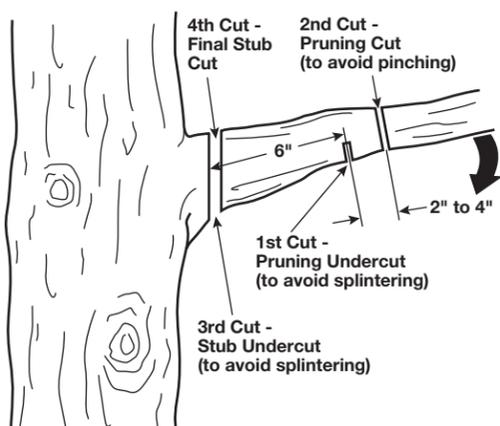

Fig. 15 Cutting Sequence for Pruning a Tree Limb
1. Use the top of the guide bar to make the first cut on the underside of the limb. This cut should be about 6" from the tree trunk and about 1/3 of the thickness of the limb (Fig. 15).
2. Move 2" to 4" farther out on the limb and use the bottom of the guide bar to make the second cut on the topside of the limb. Continue cutting until the limb is completely off the tree (Fig. 15).
3. Use the top of the guide bar to make the third cut on the underside of the limb stump. This should be made as close as possible to the tree trunk and about 1/3 of the thickness of the limb stump (Fig. 15).
4. Use the bottom of the guide bar to make the fourth and final cut. Make this cut directly above the last and downwards through the limb stump (Fig. 15).